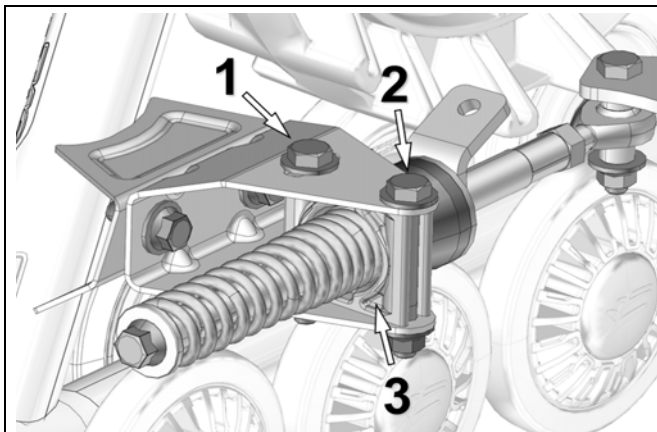

Figure 13
- Loosen anti-rotation bracket bolts (1) and (2) to allow the anti-rotation retainer (3) to rotate on its axis. See Figure 13.